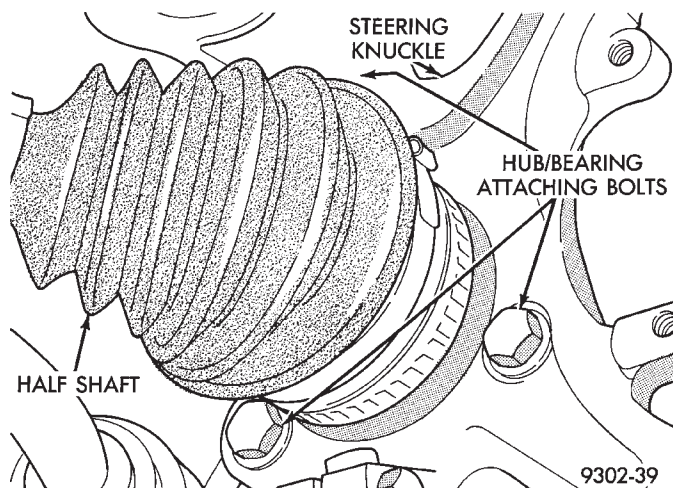

Fig. 6 Hub And Bearing Assembly Retaining Bolts
(8) Remove the 3 steering knuckle to hub and bearing assembly attaching bolts (Fig. 6).